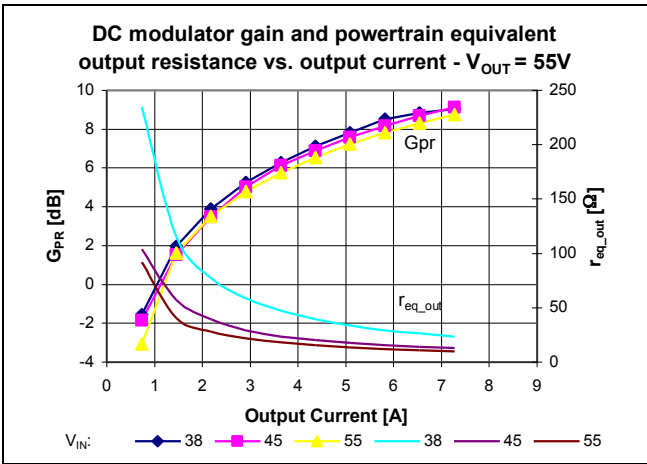

Figure 17 – Powertrain characteristics vs. I_{OUT} ; Resistive load, $V_{OUT} = 55\text{ V}$, various V_{IN}
The powertrain small signal (plant) response consists of a single pole determined by the load resistance, the powertrain equivalent output resistance, and the total output capacitance (internal and external to the module). Both the modulator gain and the equivalent output resistance vary as a function of line, load and output voltage, as shown in Figures 17, 18 and 19. As the load increases, the powertrain pole moves to higher frequency. As a result, the closed loop crossover frequency will be the highest at full load and lowest at
- Modulator Gain G_{PR} : See Figures 17, 18, 19